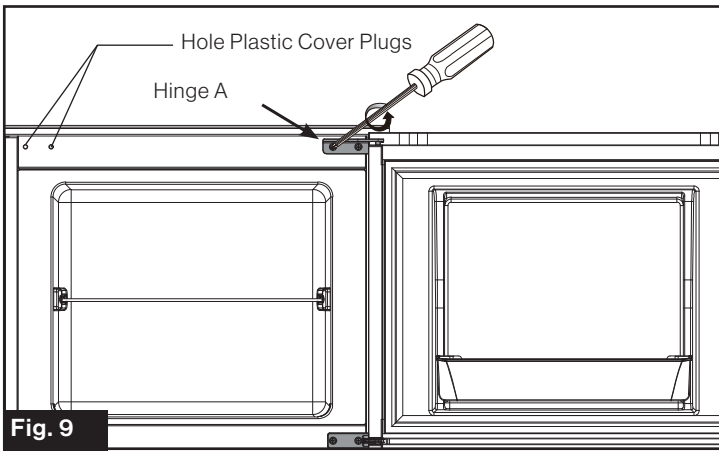

Fig. 9
1. Disassemble the freezer door by removing the Hinge A fixing screws. (Fig. 9) Remove the Hole Plastic Cover Plugs from the left side of the refrigerator and set aside for future use.